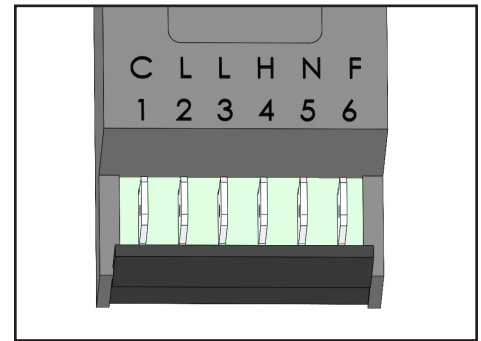

Fig. 1. Danfoss ETC voltage terminals and labels.
4. Record the voltage wire color and placement on the existing control module below (or take a picture). See fig. 1.